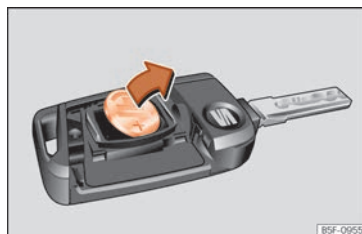

Fig. 142 Vehicle key: removing the battery.
- Extract the battery from the compartment using a suitable thin object »» Fig. 142.
- Place the new battery in the compartment as shown »» Fig. 142, pressing in the opposite direction to that shown by the arrow »» ❷.